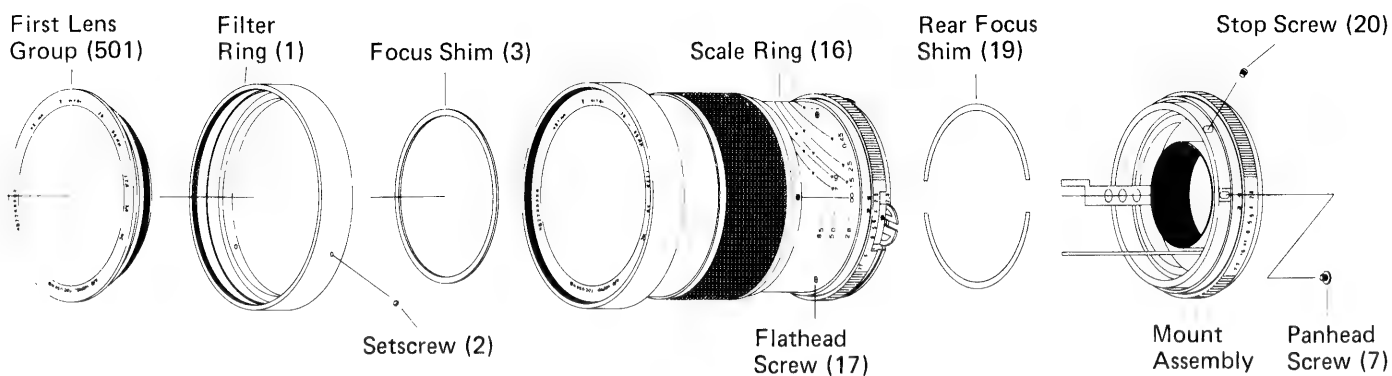

Figure 3-1. Initial Disassembly Steps
3.2.1 Removal of First and Second Lens Group Assemblies (Figure 3-1)